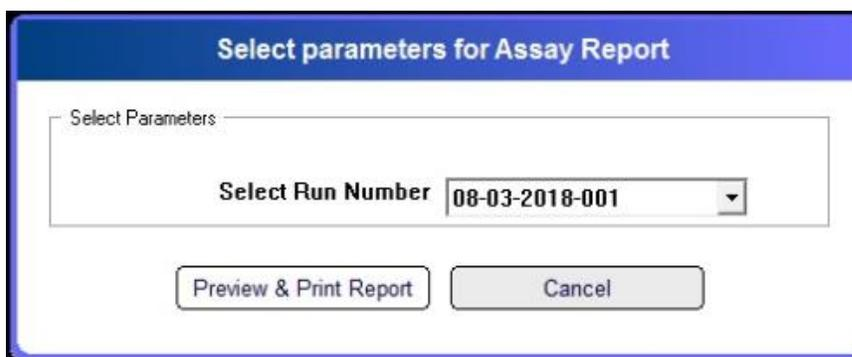

FIGURE 46<SELECT PARAMETERS FOR RUN SUMMARY REPORT> WINDOW
1. Select the report-type in the **<Select a Report>** dialog box. Select **<Next>** in the **<Welcome to Reports Module>** window, which will open the **<Select Parameters for Run Summary Report>** window (Figure 46).
2. Select the date (or date range), run number or catalog number of the report. (Figure 46)